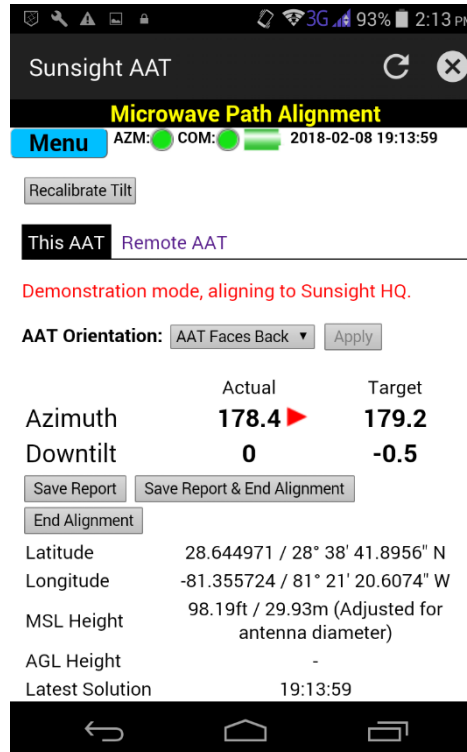

Figure 16
- 13) Once both MW15/MW08s have successfully logged in and are on the measuring page, target data will be populated for azimuth and downtilt for the link. *See Figure 16*